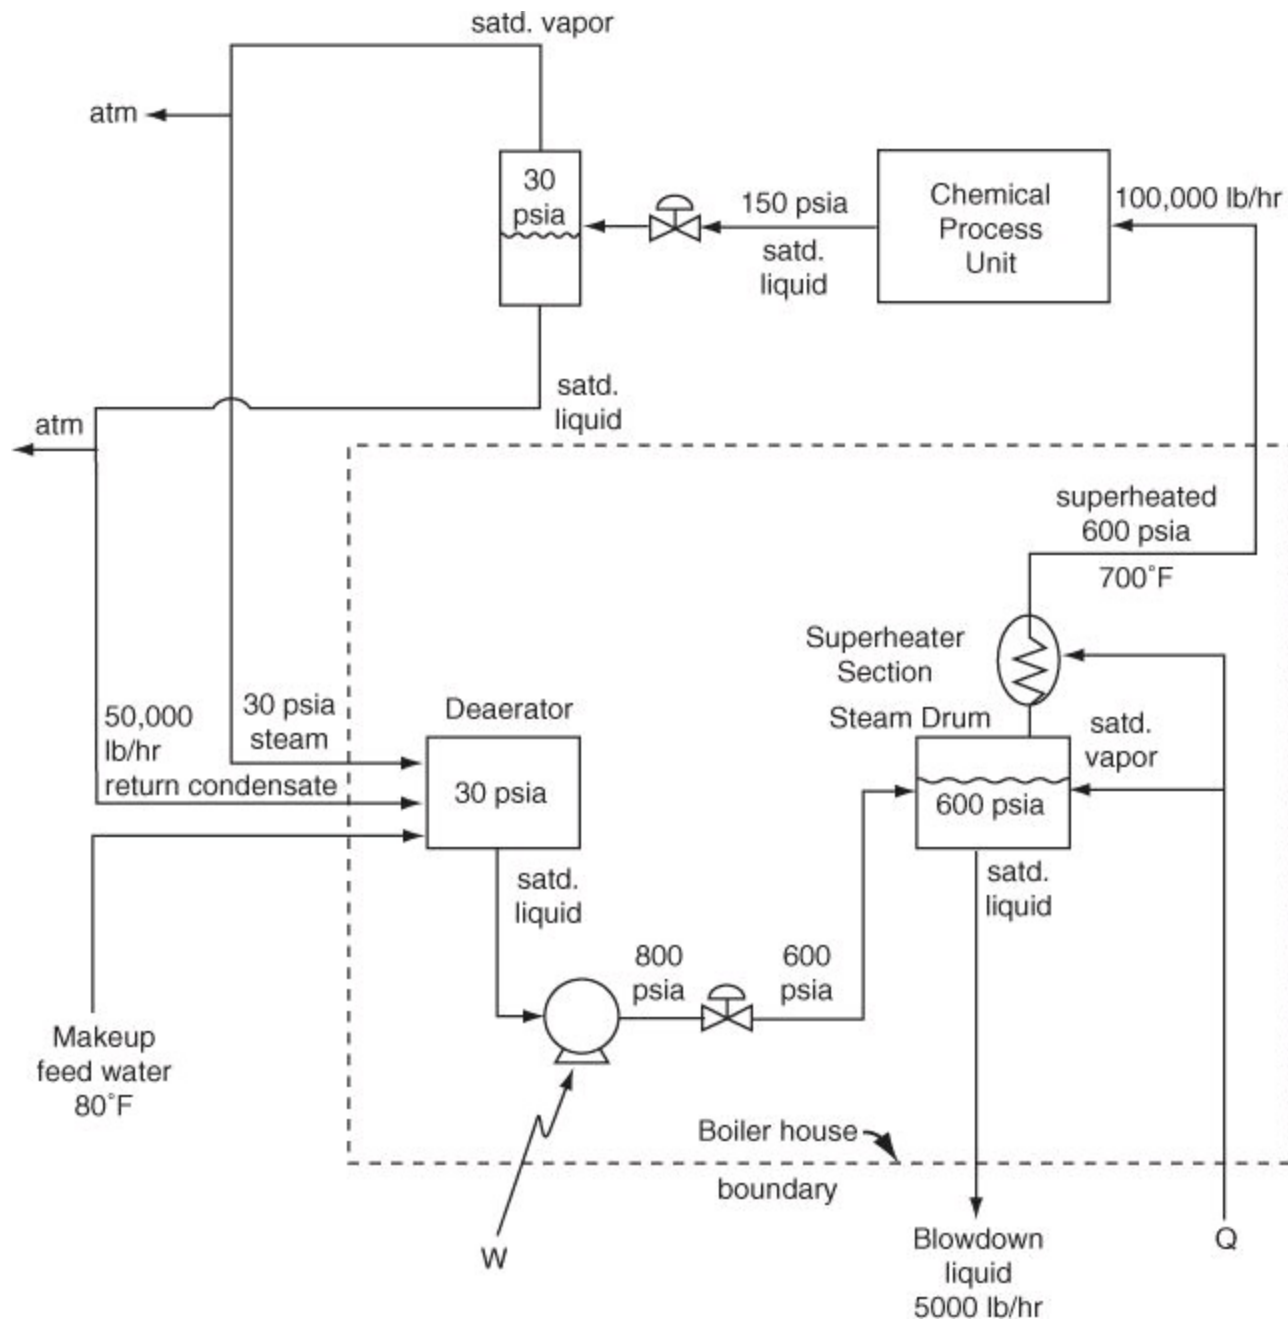

Figure P9.3.50
***9.3.50. A boiler house flowsheet for a chemical process plant is shown in Figure P9.3.50 on page 594. The production rate of 600 psia superheated steam is 100,000 lb/hr. The return condensate flow rate is 50,000 lb/hr. Calculate: